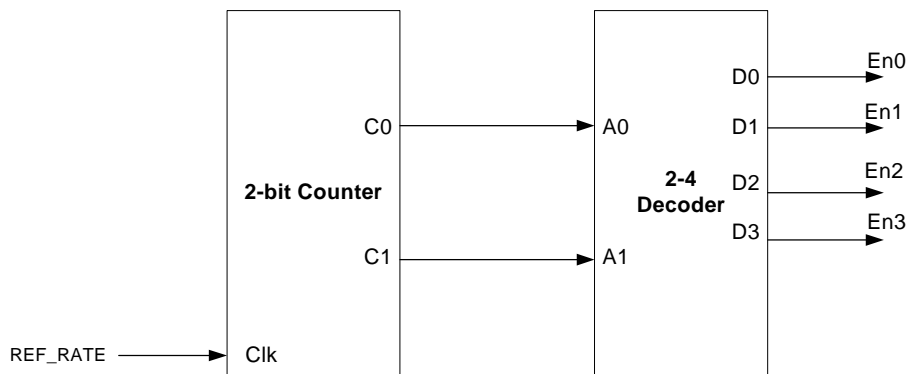

Figure 9.4: Round-robin enabling logic of the four 7-segment display digits.
1. Open the schematic of lab # 7. Add the round-robin enabling logic of the four display digits. A block diagram of this logic is shown in Figure 9.4, where En0, En1, En2, and En3 are the “Enable” inputs of the four 7-segment display digits.
2. Depending on the values of C0, C1 (which are the outputs of the 2-bit counter in Figure 9.4) and the MODE input, one can determine what to pass as input to the BCD-to-7-segment-display decoder. Table 9.1 lists all possible values of the three variables and tells what action to take. For example, if $C1C0=00$ & $MODE=0$, En0 (which enables the rightmost digit M_0) is enabled, and the ones digit of the minutes counter of the current time should feed the BCD-to-7-segment-display decoder. A close look at Table 9.1 will make us conclude the following: